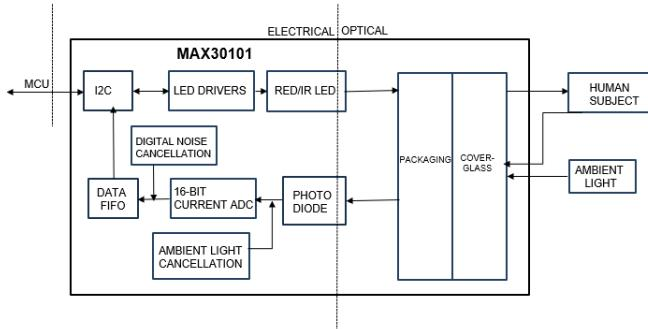

Figure 6: MAX30101 System Diagram (3)
The MAX30101 is an integrated pulse oximetry and heart-rate monitor module. It includes the IR and red LEDs, photodiode, and low-noise electronics with ambient light rejection. A block diagram has been shown in Figure 6 (3). When the user places their finger on the cover glass, the MCU signals the LED driver via